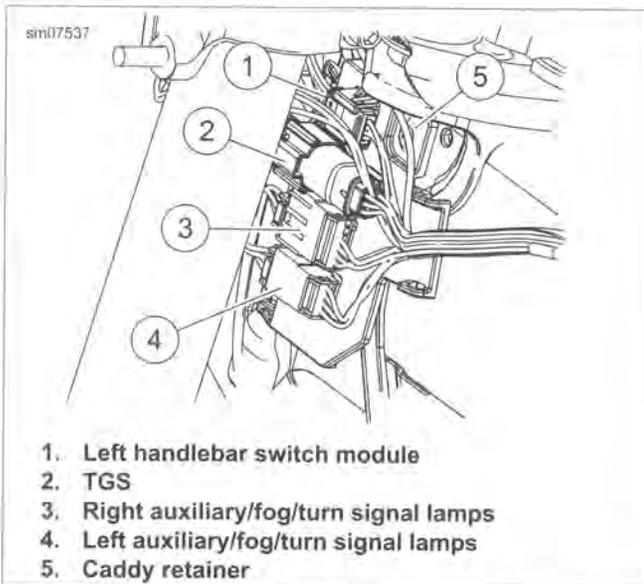

Figure 7-35. Left Side Connectors: Road King
1. See Figure 7-35. Remove headlamp assembly. See 7.9 HEADLAMP. Disconnect front turn signal lamps connector.
- See Figure 7-35. Secure anchor to fork stem nut lockplate. Install headlamp assembly. See 7.9 HEADLAMP.